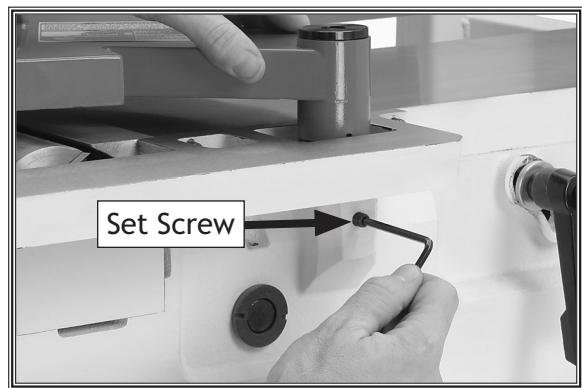

Figure 22. Securing the cutterhead guard.
27. Insert the cutterhead guard shaft into the hole at the front of the infeed table, making sure that the flat part of the shaft faces the set screw shown in **Figure 22**.
28. Tighten the set screw against the shaft (see **Figure 22**) to secure the cutterhead guard in place.